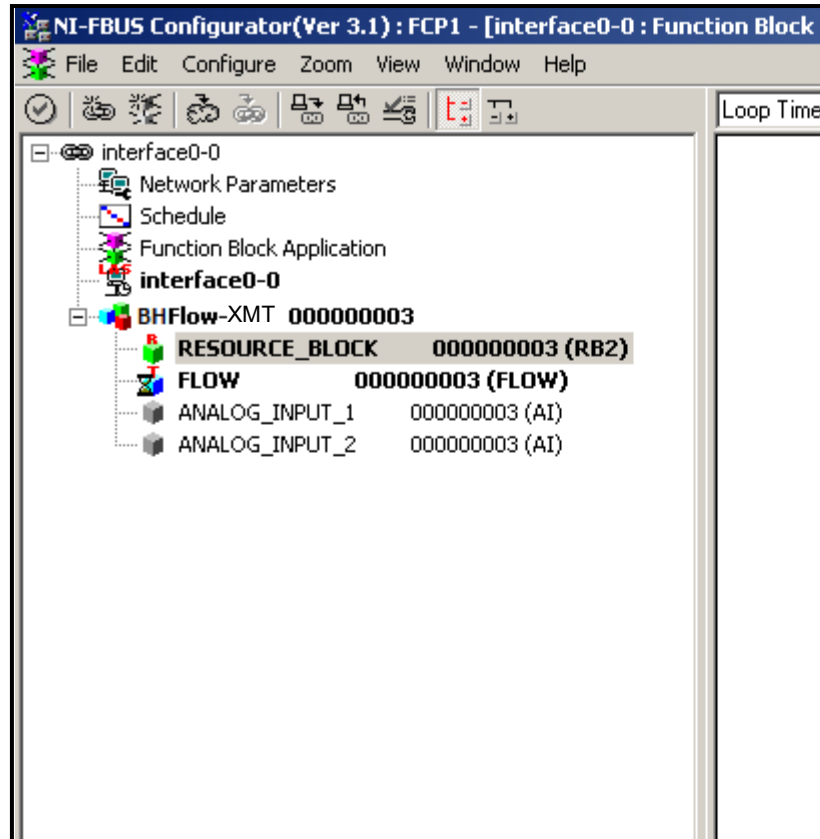

Figure 58: Configuration Utility Setup Example
Figure 58 shows the Configuration Utility with a flowmeter on the network (Panametrics Flow-XMT).
1. Double click on the AI block for which you wish to set the units (ANALOG_INPUT_1 or ANALOG_INPUT_2 in the tree under Parametric Flow-XMT; see Figure 58 on page 78).
1. Double click on the FLOW transducer block (in the tree under GEFLOW-XMT; see Figure 58 on page 78).